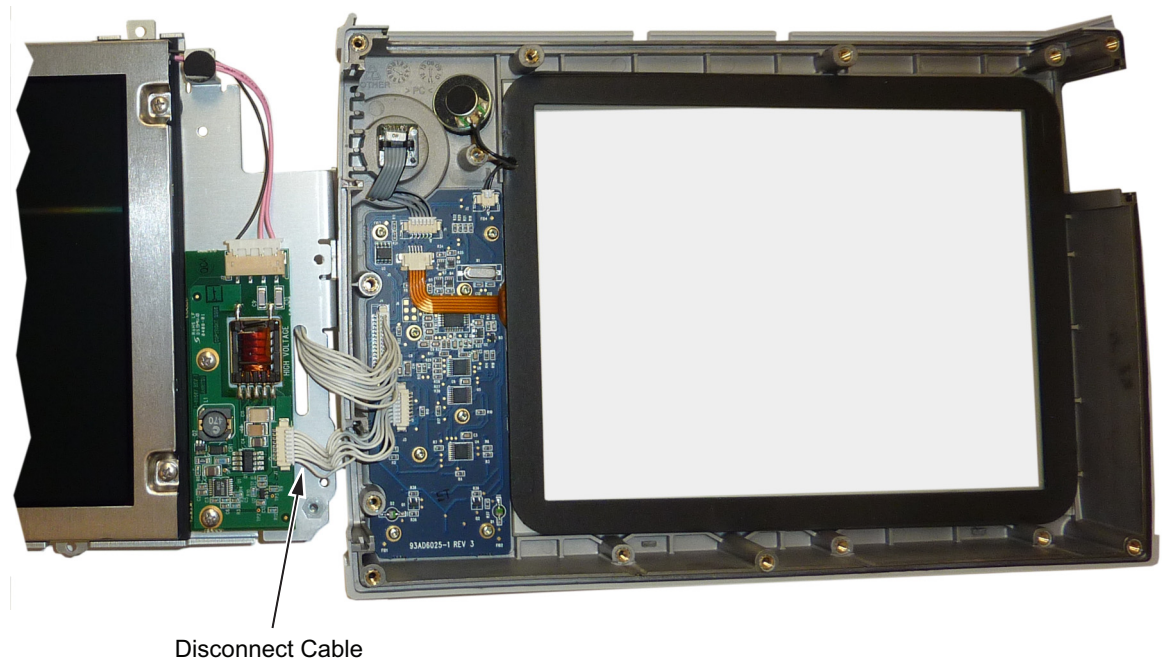

Figure 7-14. Replacing the LCD Assembly
- Turn the LCD assembly over and disconnect the front half of the case from the LCD Assembly (Figure 7-14).